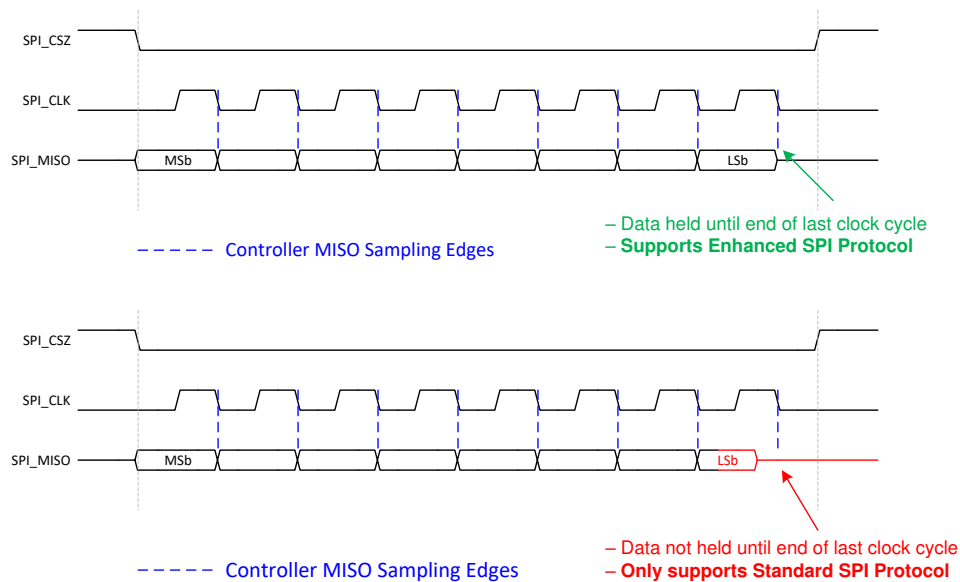

Figure 6-17. Requirement for Enhanced SPI Protocol
- (2) In most SPI applications, one clock edge is used by both master and slave devices for transmitting data while the other edge is used by both for sampling received data. This is referred to as *Standard SPI Protocol*. To maximize the SPI_CLK frequency potential, SPI masters can alternatively be enhanced to sample the data in (MISO) bit on the same clock edge used to transmit the next data out (MOSI) bit. This is referred to as *Enhanced SPI Protocol*. The DLPC7540 SPI master implementation supports both protocols (part of SPI interface configuration), however, to be able to use the "Enhanced SPI Protocol", the slave device must meet the requirement shown in Figure 6-17.